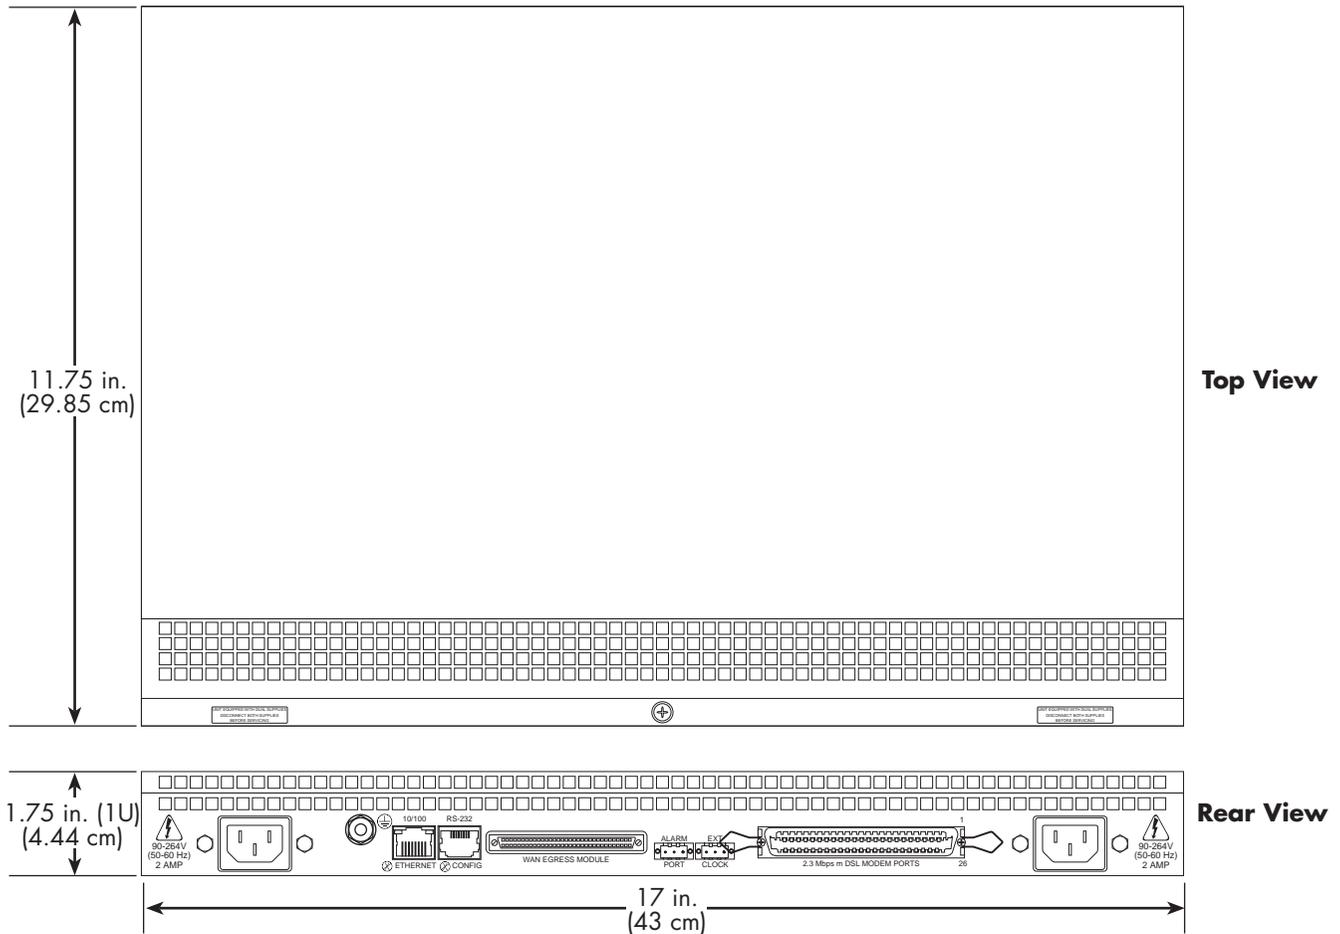

Figure 3. Model 3095 DACS chassis physical dimensions
- Also refer to figure 3 for the dimensions.